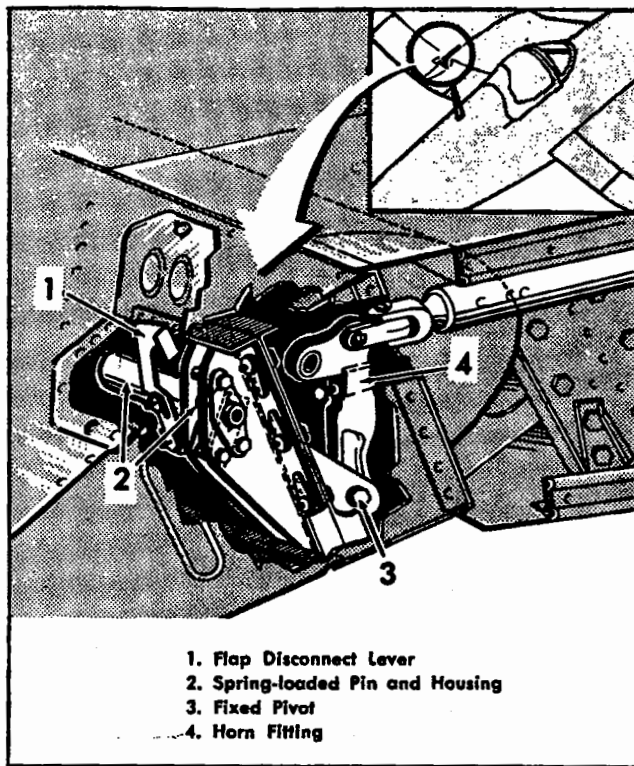

Figure 4-9. Flap Disconnect Mechanism.
4-34. REMOVING. (Refer to figures 4-9 and 4-10.)
b. Lift the flap disconnect lever (reference (1) on figure 4-9), and press down on the flap. This will disconnect the pin (2) which locks the horn fitting (4) to the flap, and permit the flap to be pushed downward. (See figure 4-9); the flap is automatically locked in this position by the flap downlock mechanism within the outer panel.
4-38. **DESCRIPTION.** (See figure 4-9.) The pushrod which actuates the outer panel flap is connected to the inboard end of the flap by means of a special horn fitting (4). The lower part of this fitting is attached to the flap at a fixed pivot (3) while the upper part is secured in place by the spring-loaded pin and housing (2) of the disconnect mechanism. Withdrawal of the pin permits the flap to swing down, revolving about the horn fitting, thereby providing clearance for removal of the outboard gun. The disconnect mechanism consists of a spring-loaded pin and housing (2) and a lever (1) for disengaging the pin. To operate the disconnect mechanism, the access door is unfastened by opening the single Camloc screw, the door is opened, and the lever is lifted up, allowing the flap to be rotated to a 90° down position. As this point is reached, the flap downlock mechanism at the outboard end of the flap engages and the indicator plunger, located in the outer panel forward of the lock mechanism, emerges from the outer panel skin. Upon depressing the flap lock indicator, the flap may be revolved upward until the control horn contacts the disconnect mechanism, automatically allowing the spring-loaded pin to engage.